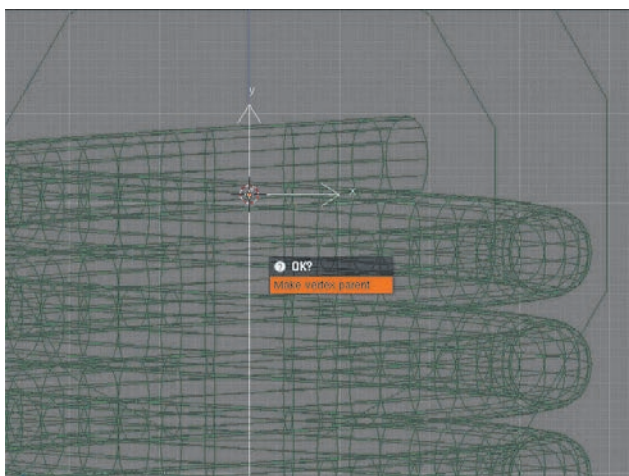

Figure 3.9 Vertex-parent the empty.
4. In Object mode, select Empty.002, and then Shift-select the two-vertex Mesh object. Enter Edit mode and select the topmost vertex. Press Ctrl+P and select Make Vertex Parent, as shown in Figure 3.9. Follow the same procedure to vertex-parent Empty.001 to the bottom vertex.